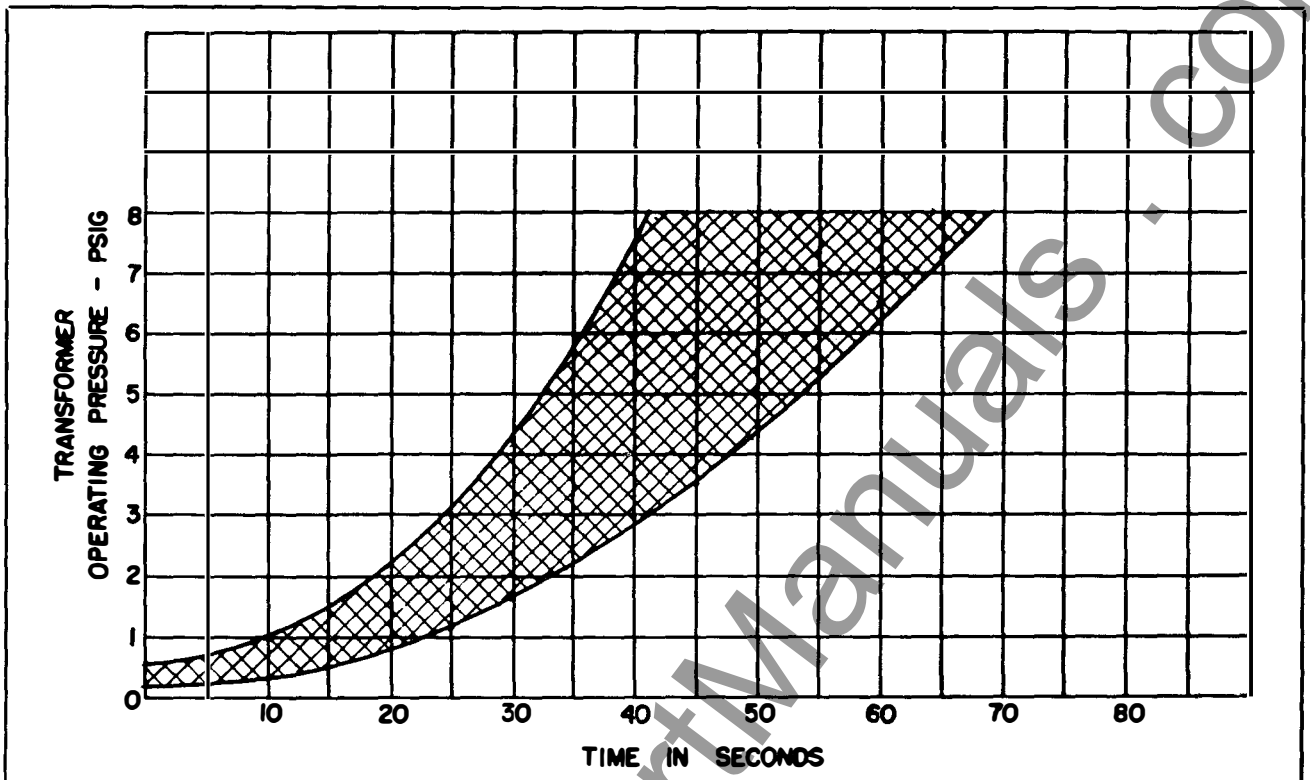

FIG. 4. Time and Pressure Curves
the transformer gas pressure and the time required to equalize the pressures between the transformer and the relay. This relationship is shown graphically in Figure 4 and is the basis for checking the oper-
8. Compare time (7) and transformer pressure (4) to Fig. 4. Wide deviations of field test points should be referred to the nearest Westinghouse Office.